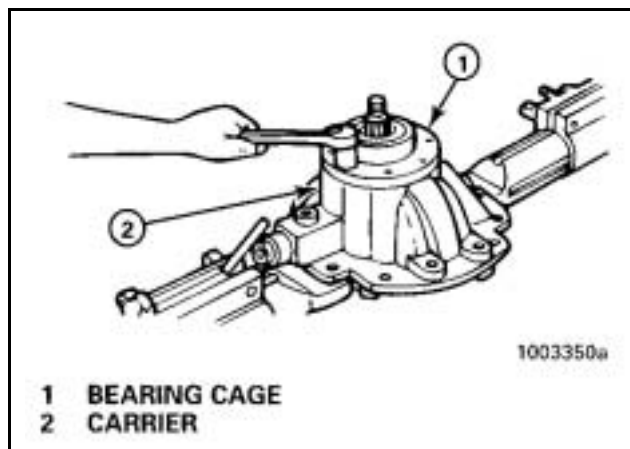

Figure 24
5. Remove the capscrews and washers that hold the bearing cage in the carrier. **Figure 24.**